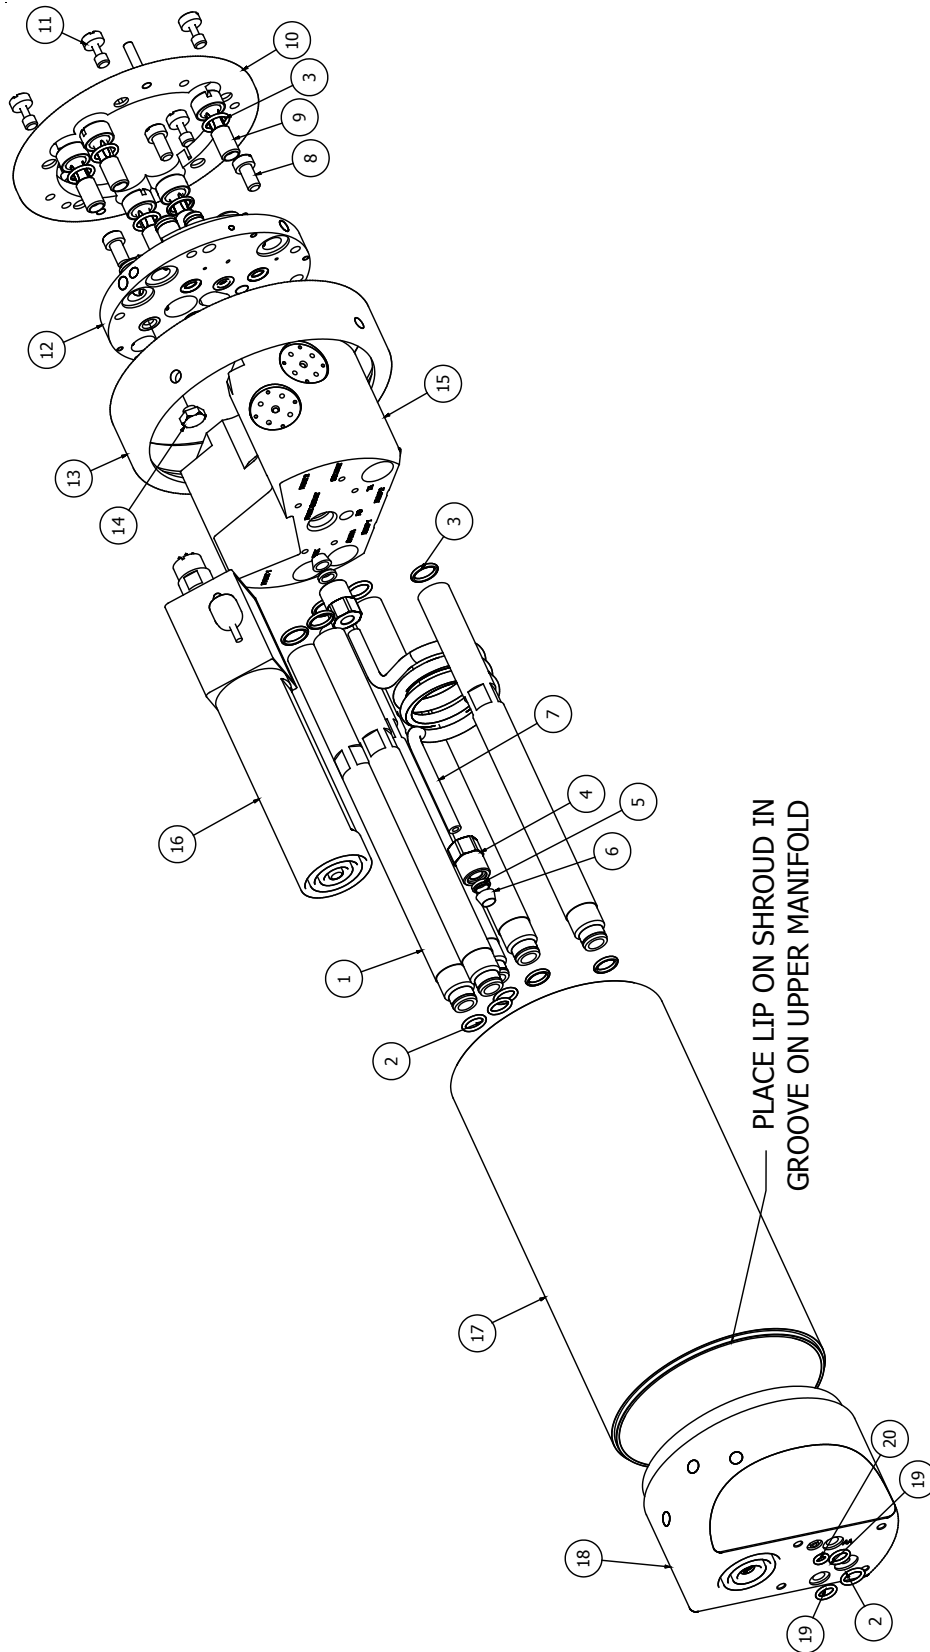
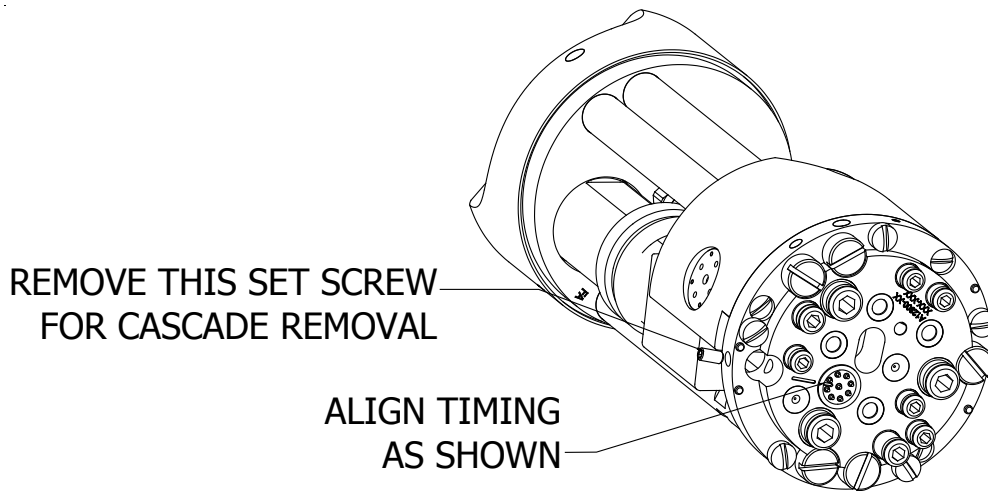

Figure 16: Disassembly of A12373 Spray Applicator Assembly
Figure 17: Cascade Wire Plug Assembly
7. Remove and inspect the o-rings [2, 19, and 20] on the upper manifold [18]. Replace if necessary (see Figure 16).
8. Remove mounting ring [13] by pulling straight up as shown in Figure 16.
9. Remove the five (5) screws [11] from the bottom of the mounting plate [12] (see Figure 16).
12. Remove the five (5) air bolts [9] from the bottom of the mounting plate [12]. Inspect the five (5) o-rings [3] located within the air bolts [9] and replace if necessary.
14. Remove the cascade plug [16] from the mounting plate [12] by unscrewing the set screw located on the side of the mounting plate [12] in-line with the timer markings. (For set screw location see Figure 17).
15. Slide the valve manifold block [15] and mounting plate [12] off of the support rods [1] (see Figure 16).
16. Unscrew the five (5) support rods [1] from the upper manifold [18] using an A11284-00 tool.
17. Remove the cascade [16] from the upper manifold [18] by pulling straight down on the cascade [16] (see Figure 16).
19. Remove the mounting plate [12] from the valve manifold block [15] by unscrewing the three (3) screws [8] located on the bottom of the mounting plate [12].
20. Reassemble in reverse order making sure to align the cascade wire plug timing mark with the timing mark on the mounting plate [12] as shown in Figure 17. Remember to tighten the set screw called out in Figure 17.
21. When placing the shroud [17] back onto the assembly, make sure to mate the edge with the lip on the shroud [17] with the upper manifold [18], and fit the lip of the shroud [17] into the groove on the upper manifold [18], as shown in Figure 16.
A12373 SPRAY APPLICATOR ASSEMBLY - PARTS LIST (Figure 16)
2. Loosen retaining ring [13] (see Figure 16) and remove applicator from robot wrist.